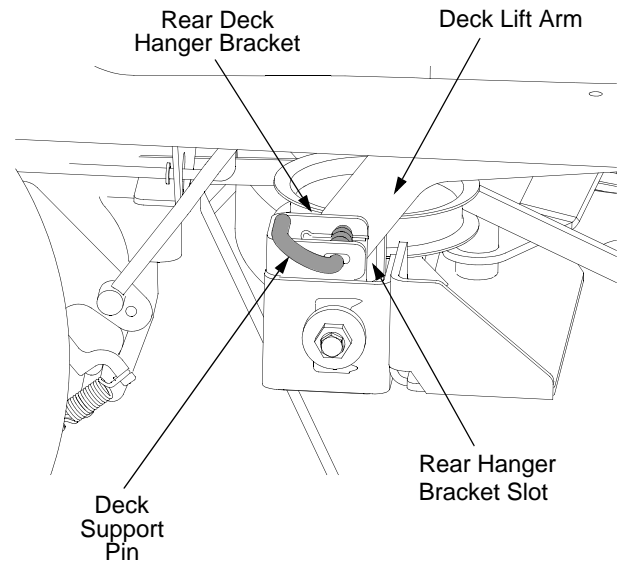

Figure 27
- Looking at the cutting deck from the right side of the tractor, locate the deck support pin on the rear right side of the deck. See Figure 27.
- Pull the deck support pin outward to release the right side of the deck from the deck lift arm. See Figure 27.
- Maneuver the deck so that the slots in the two rear deck hanger brackets approximately align with the deck lift arms of the tractor. Refer to Figure 27.
- Pull the deck support pins outward and maneuver the deck as necessary to align the holes in the deck lift arm with the pins. Refer to Figure 27.